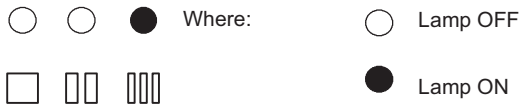

Figure 10.21
- 4 Press the reset button D repeatedly (3 times) until the lamps F give the indication as in Figure 10.21 (setting the tree way diverter valve mode operation).